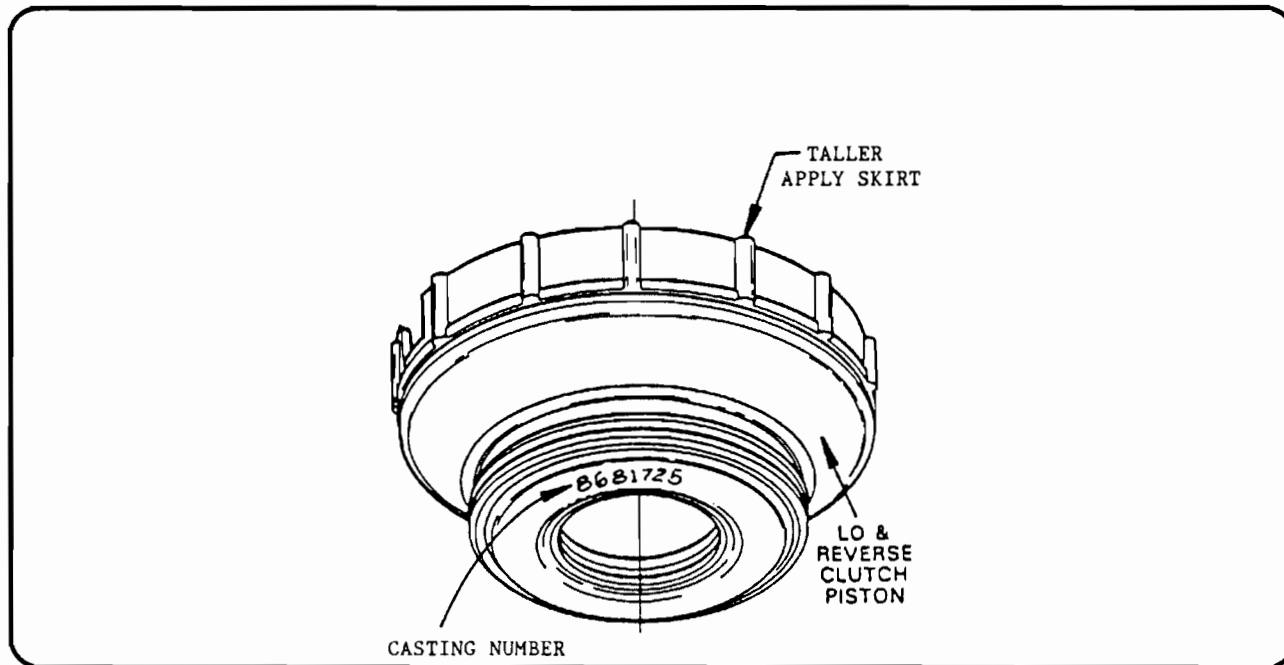

Figure 32
- (1) LOW/REVERSE CLUTCH PISTON - Now .040" longer than the previous piston and is easy to identify by the casting number 8681725. The previous piston casting number is 8663888 (see figure 32).